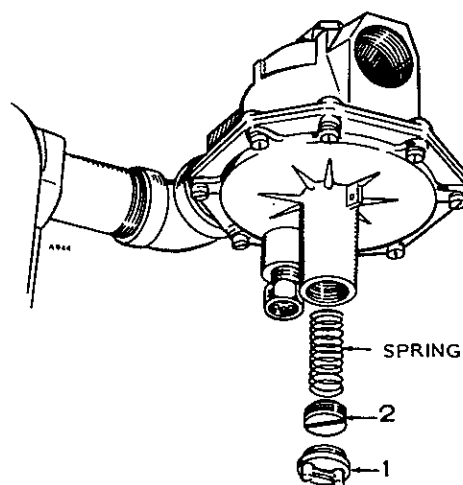

FIGURE 8-9. REGULATOR SPRING REMOVAL
Models shipped after June 15, 1967 have the Thermac pressure reduction valve installed upside down. When changing from natural gas to LPG vapor withdrawal, remove the spring and replace items 1 and 2, Figure 8-9. This valve now becomes a negative regulator or a zero pressure valve for vaporized propane. Pressure reduction is not needed with propane fuel.